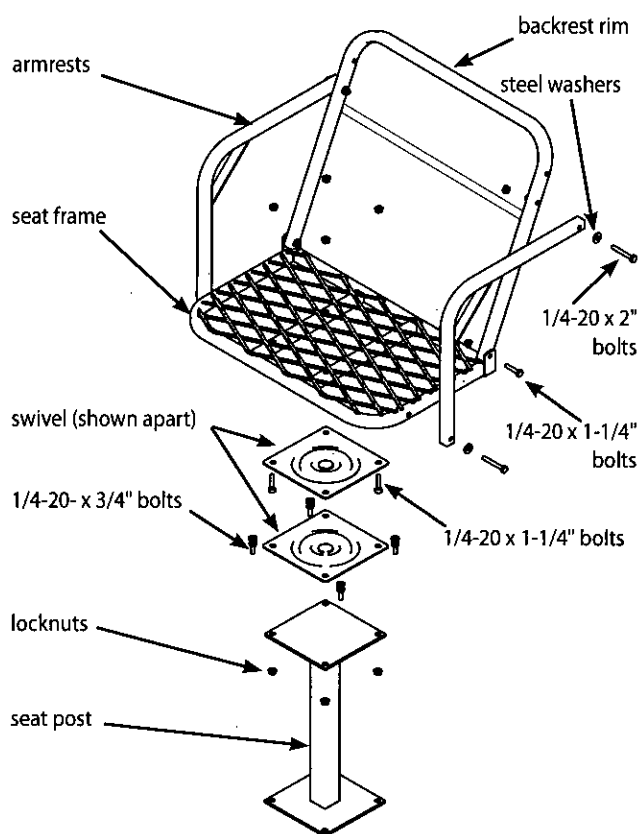

Figure 6
11. Attach swivel (48662) to either end of seat post (TP11) using (4) provided 1/4-20 x 3/4" bolts and locknuts. **SEE FIGURE 6.**
12. Attach seat frame (TP154) to swivel using (4) provided 1/4-20 x 1-1/4" bolts and locknuts. **SEE FIGURE 6.**
13. Attach backrest rim (TP165) to tabs of seat frame using (2) provided 1/4-20 x 1-1/4" bolts and locknuts. **SEE FIGURE 6.**
14. Attach the (2) armrests (TP164) to the seat frame and backrest rim using (4) provided 1/4-20 x 2" bolts, locknuts and steel washers. **SEE FIGURE 6. You must now tighten all nut & bolt assemblies. Be sure not to over tighten or crush tubing when tightening!**